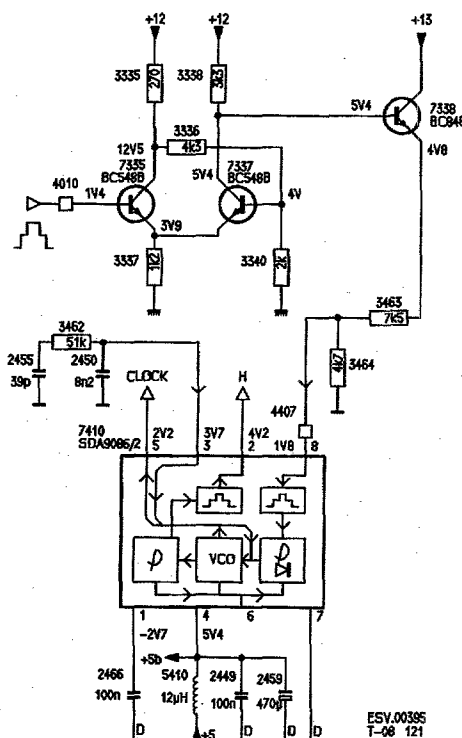

Fig. 8.5
The sandcastle of the main picture comes at point 8 of IC7410 via a differential amplifier (see fig. 8.5) and an emitter follower. This IC contains a VCO which shows 27 MHz. The clock (13.5 MHz) is produced by a PLL circuit which is synchronous with the sandcastle of the main picture and is present at pin 5. (At 50Hz the VCO is divided by 2.) The horizontal synchronisation pulse (H) is derived from the clock (13.5 MHz/864) and is thus also synchronised with the sandcastle of the main picture.